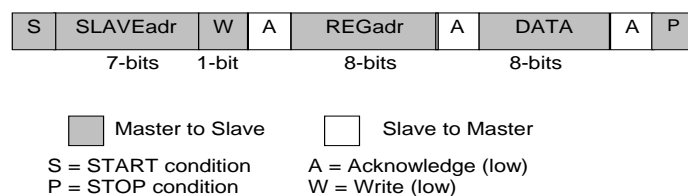
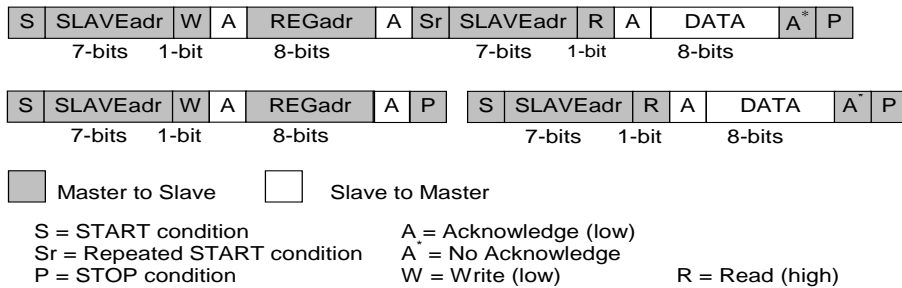

Figure 10: I²C Byte Write (SDA Line)
Figure 11: I²C Byte Read (SDA Line) Examples
The I²C bus is monitored for a valid slave address whenever the interface is enabled. It responds immediately when it receives its own slave address. The acknowledge is done by pulling the SDA line low during the following clock cycle (white blocks marked with A in Figure 10 and Figure 11).
The protocol for a register write from master to slave consists of a START condition, a slave address with read/write bit, and the eight-bit register address followed by eight bits of data, terminated by a STOP condition. DA9141 responds to all bytes with acknowledge (A), see Figure 10.
with a repeated START, or alternatively a second START, condition. After receiving the data, the host sends no acknowledge (A*) and terminates the transmission with a STOP condition, see Figure 11.